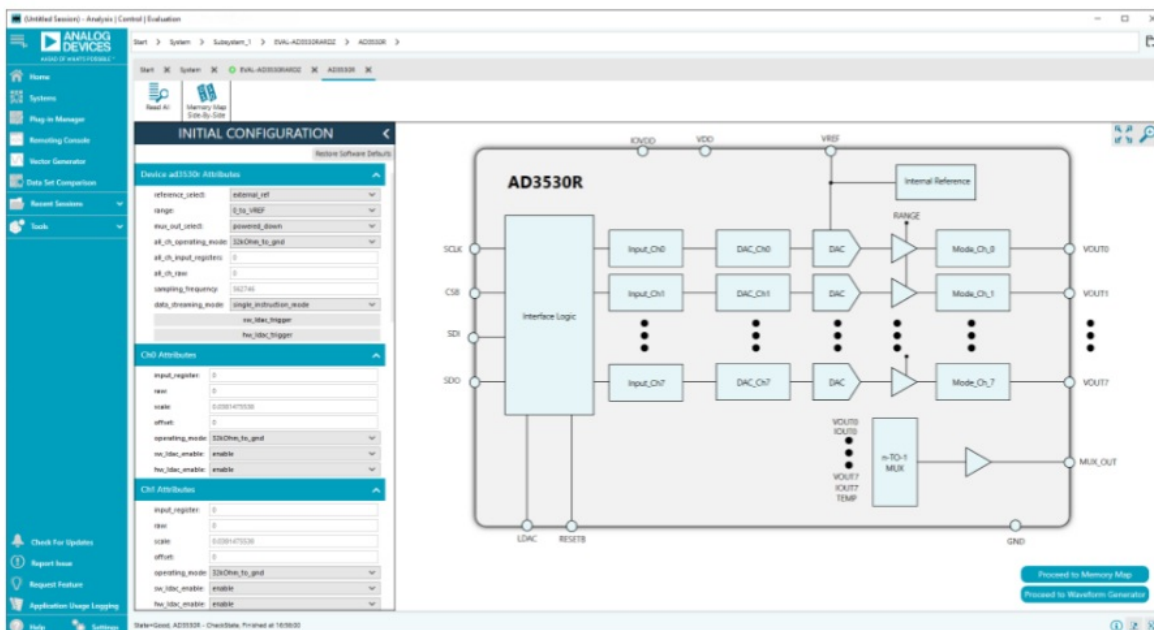

Figure 3. Chip Block Diagram of the AD3530R
4. Double-click the AD3530R chip to access the chip block diagram. This view provides a basic representation of the functionality of the board. The main functions of the board are labeled in Figure 3 .